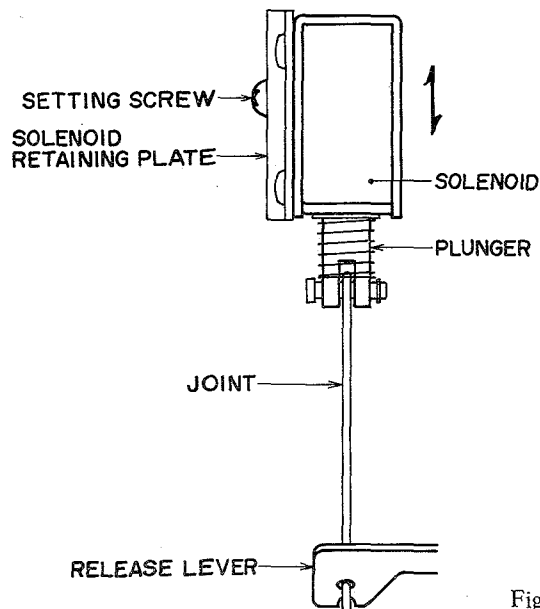

Fig. 18
8. AUTOMATIC STOP PLUNGER SOLENOID POSITION ADJUSTMENT (See Fig. 18)
- 1) Loosen the setting screw which fixes the solenoid so that the solenoid can be moved as indicated by the $\longleftrightarrow$ mark in Fig. 18.